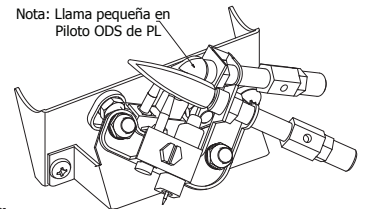
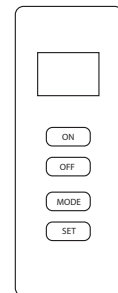

Fig. 18 - Pilot
Fig.19 - Remote
6. With control knob depressed, push down on the ignitor button until the pilot lights. The pilot is located behind the fireplace screen, centered near the rear of the burner (See Fig. 18).
7. Keep control knob depressed for (30) seconds after pilot lights. Release control knob.
- If pilot goes out repeat steps 3 through 7. Wait (1) minute before attempting to light pilot again. If after several tries the pilot still goes out, turn the gas control knob clockwise  to the “OFF” position and call a qualified service technician.
9. To use the included thermostatic remote control, set receiver switch to the “REMOTE” position (See Fig. 19). Press the ON button on the remote to ignite the main burner. Refer to the remote control instruction manual on the next page for “MODE” and “SET” functions.